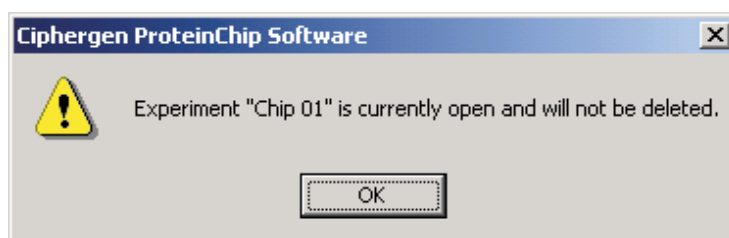

Figure 5-13: The error message that appears if an open experiment is selected for deletion.
4. If an experiment you have selected to be deleted is currently open, you will not be able to delete it and an error message will appear (Figure 5-13).